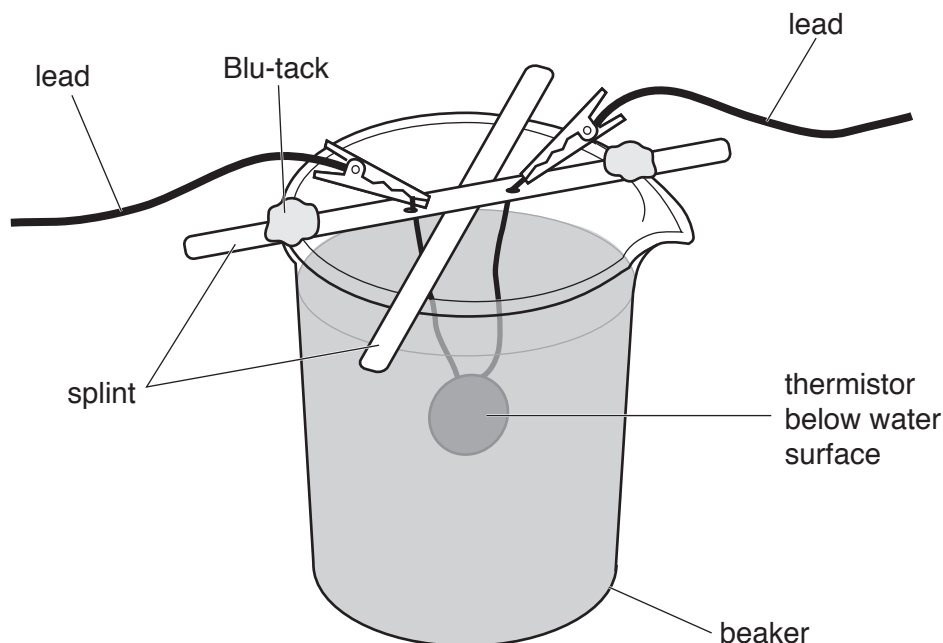

Fig. 4.2
3. A suitable disc thermistor has a resistance of about $500\ \Omega$ at $25\ ^\circ\text{C}$. The RS component code for such a thermistor is RS 191-2229. The thermistor will be submerged in very hot water. A suitable way of suspending the thermistor is shown in Fig. 4.2.
Fig. 4.2 shows a simple framework of wooden splints across the top of the beaker. The wires of the thermistor pass through very small holes in one of the splints and the ends are attached to crocodile clips and connecting leads. Blu-tack is used to ensure that the framework does not slip.